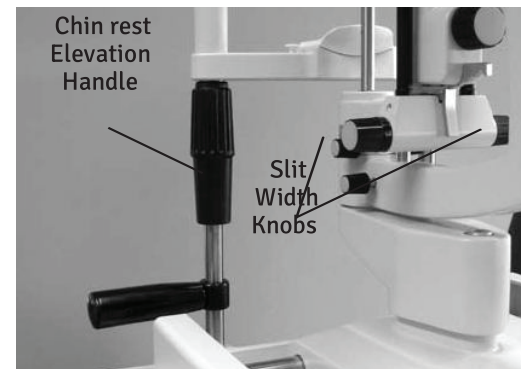

Figure-13 Adjust Patient Height
7. To position a patient, adjust the chin rest height by turning the Chin rest Elevation Handle on the post of the Chin Rest Assembly until the patient's canthus is in line with the canthus mark on the chin rest post. Refer to figure-13.